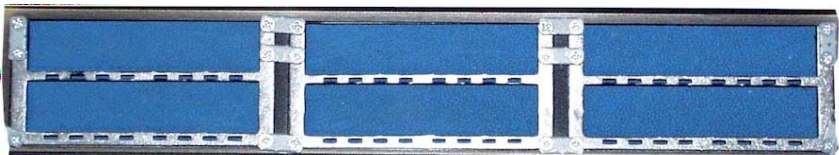

Fig. 3.5.2h Inside view of chassis cover (from the rear), showing the front panel screen plates installed inside the chassis cover using brackets and screws
Step 7. Once the installation of granddaughter and daughter modules is done, the front panel screen plates need to be placed on the front of the chassis cover to complete the installation process for that port module. The front panel screen plate comes along with the package of port module separately along with brackets and 6 #256 flat head screws. The brackets and screws have been installed inside of the top cover as shown in Fig. 3.5.2h.